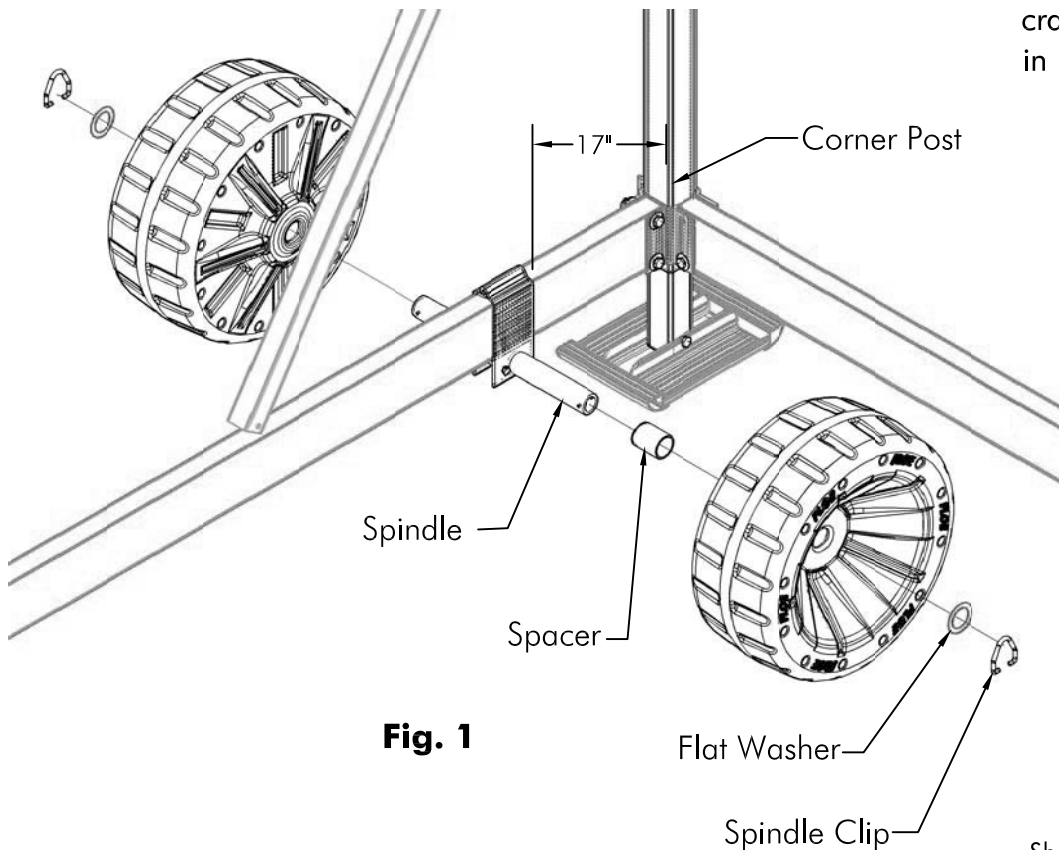

Fig. 1
Step 1: Slide the clamps together over the frame. Insert the 3/8" bolts into the bolt holes on clamps from the outside of the lift and start the 3/8" nylock nuts. Slide the spindle through the large hole in the clamp. Position the clamp assembly so that it is 17" from the corner post as shown in Fig. 1. Torque the 3/8" bolts to 35 ft/lbs.
Step 2: On the outside of the lift slide on a wheel and a 2 1/2" stainless steel flat washer, then insert a spindle clip into one hole in the spindle and pull on clip until it snaps into the opposite hole in spindle. From the inside of the lift, slide a PVC spacer, wheel, then a 2 1/2" stainless steel flat washer over the spindle. Insert a spindle clip into one hole in the spindle and pull over on clip until it snaps into opposite hole in spindle. As shown in Fig. 1. Repeat for each set of wheels.